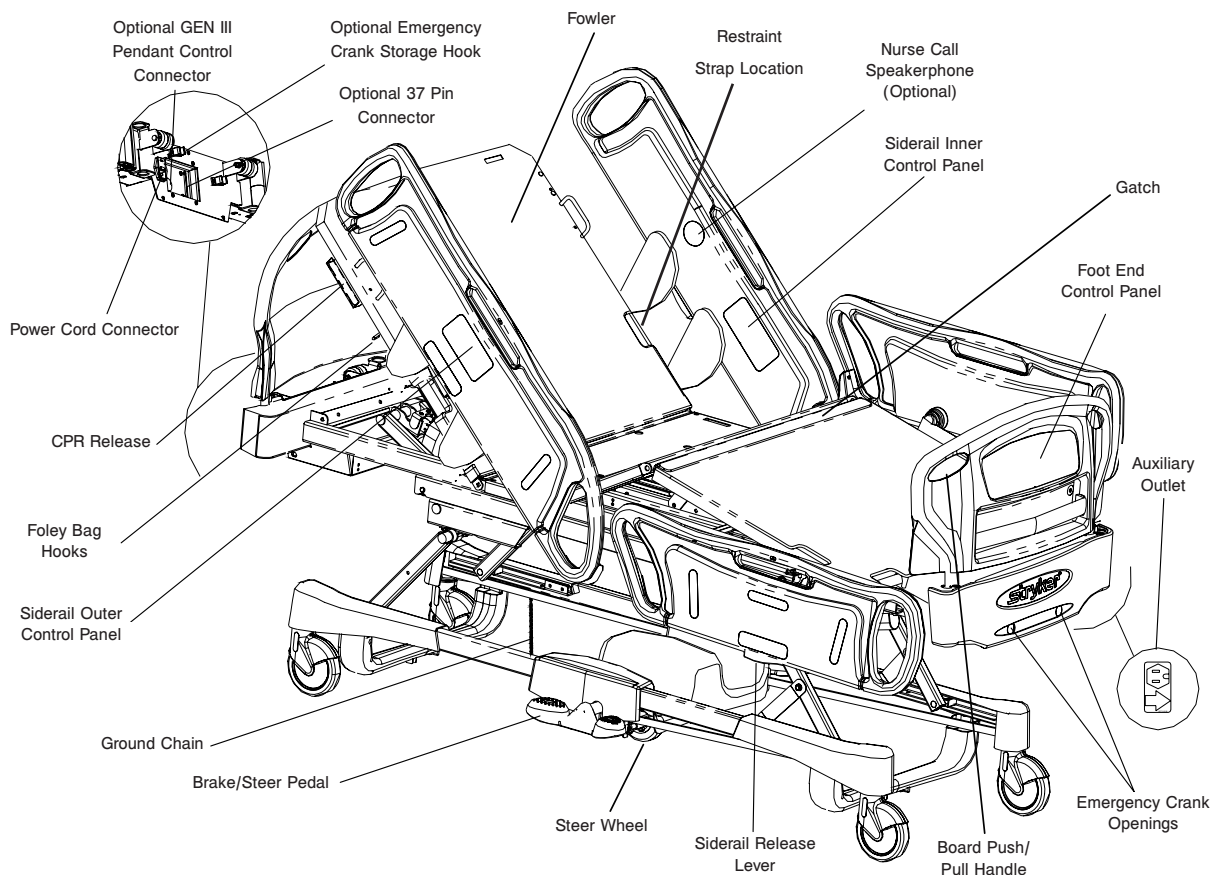

Figure 1.9
- Make sure that the ground chain is in place, intact and it's touching the floor (see Figure 1.9, page 9).